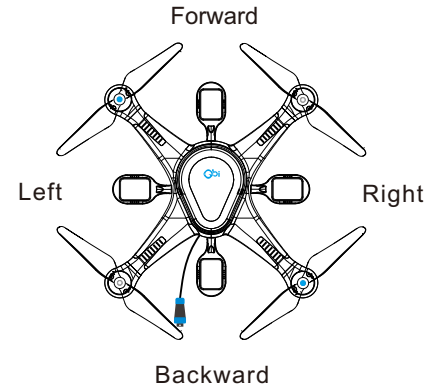

Figure 5: Drone Orientation Diagram
- ① The direction of the drone itself (as shown in Figure 5), the rounded blue and white top cover is the nose, and the sharper part is the tail.
- ② When flying at night, the color of the lights on the bottom of the wings can be used to determine the direction of the drone; the side with the red light on is the nose, and the side with the blue light on is the tail.